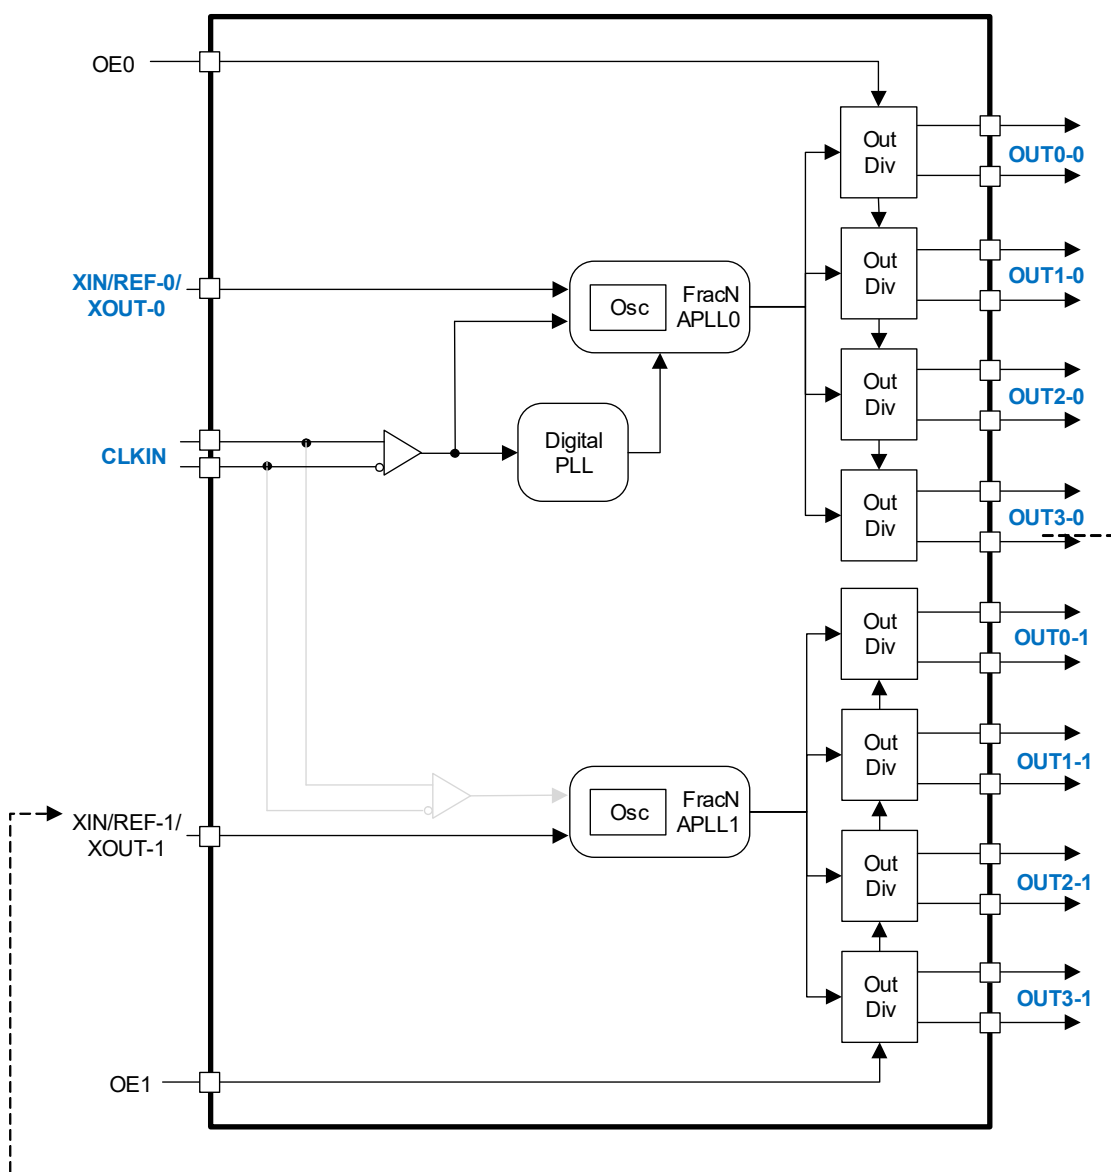

Figure 6. Jitter Attenuator or Synchronizer Mode with RC32508A when External Reference is Fed into CLKIN
- As shown in Figure 6, up to two frequency domains can be obtained in this configuration and up to seven differential outputs and one LVCMOS output or 15 LVCMOS outputs can be obtained.